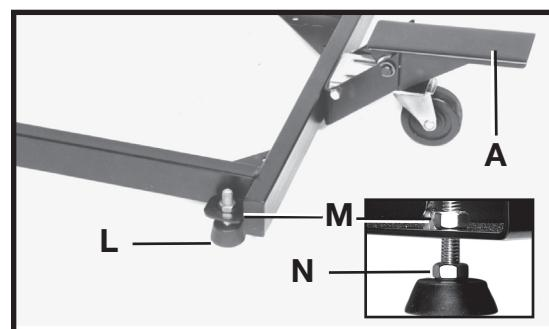

Fig. 6
3. The mobile base should be level with the floor surface when the foot lever (A) Fig. 6 is in the raised position. The two rubber feet - one is shown at (L) Fig. 6 - should contact the floor surface. To raise or lower each rubber foot, loosen the hex nut (M) and turn the nut (N) located directly above the rubber foot, up or down. After adjustment, tighten hex nut (M).
**IMPORTANT:** Raise the foot lever (A) Fig. 6, and make certain that it is in the locked position before placing the machine on the mobile base.